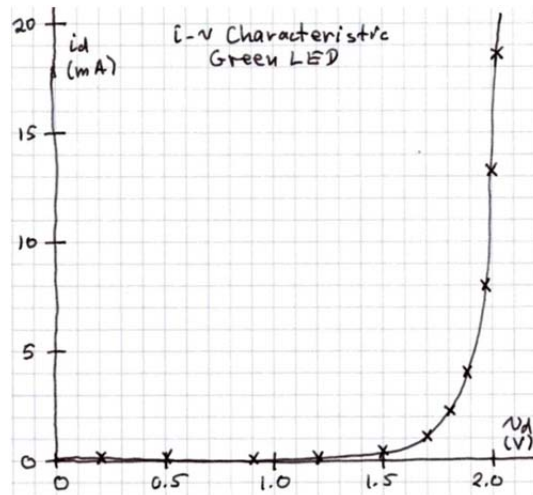

Figure 11: LED I-V characteristics graph
- Use the grid in your lab journal to draw an acceptable graph of the current,  $i_d$  versus the voltage,  $V_d$ . Figure 11 provides an example of an acceptable graph (with appropriate axes intervals). This graph should take up at least half of the page of the lab journal, have a descriptive title, labeled axes (with units), and be drawn smoothly with the data points connected.